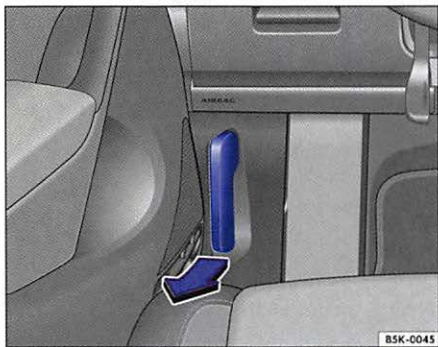

Fig. 149 Primary hood release lever in the footwell on the driver's side.
- Before you open the hood, make sure that the windshield wiper arms are resting on the windshield ⇒ ①.
- Pull the primary hood release lever in the direction of the arrow ⇒ fig. 149. The engine hood is released from its latch by a spring ⇒ ⚠.